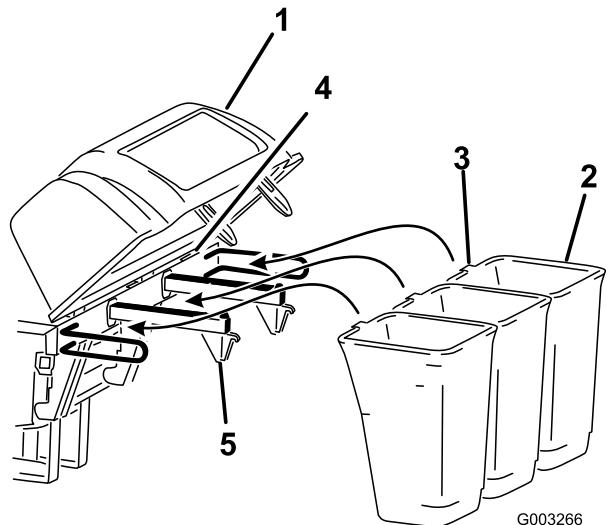

Figure 9
3. Install the bag tab into the notch in the hood assembly. Do this for all bags (Figure 9).